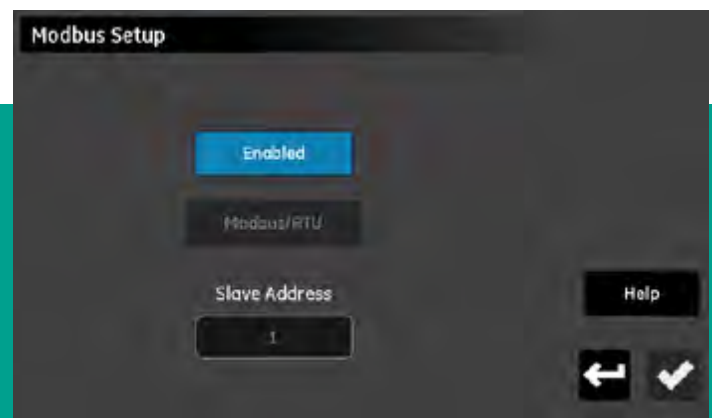

Figure 68: Modbus setup screen
1. From the *configuration menu* screen (see *figure 52* on page 59), tap the **modbus** button to open a *modbus setup* screen similar to *figure 68* below.